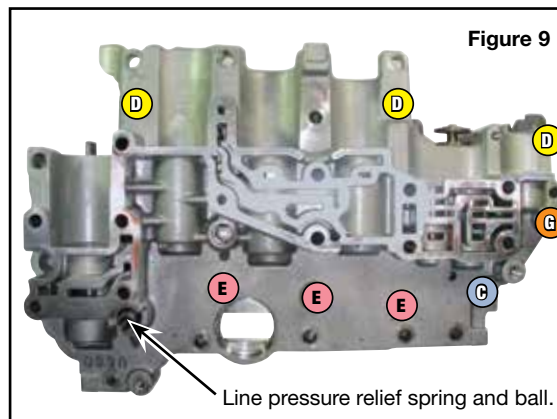

Figure 9
- Remove remaining eight bolts (**Figure 9**) and line pressure relief spring and ball.
- Reinstall the eight bolts (**Figure 9**) and line pressure relief spring and ball.